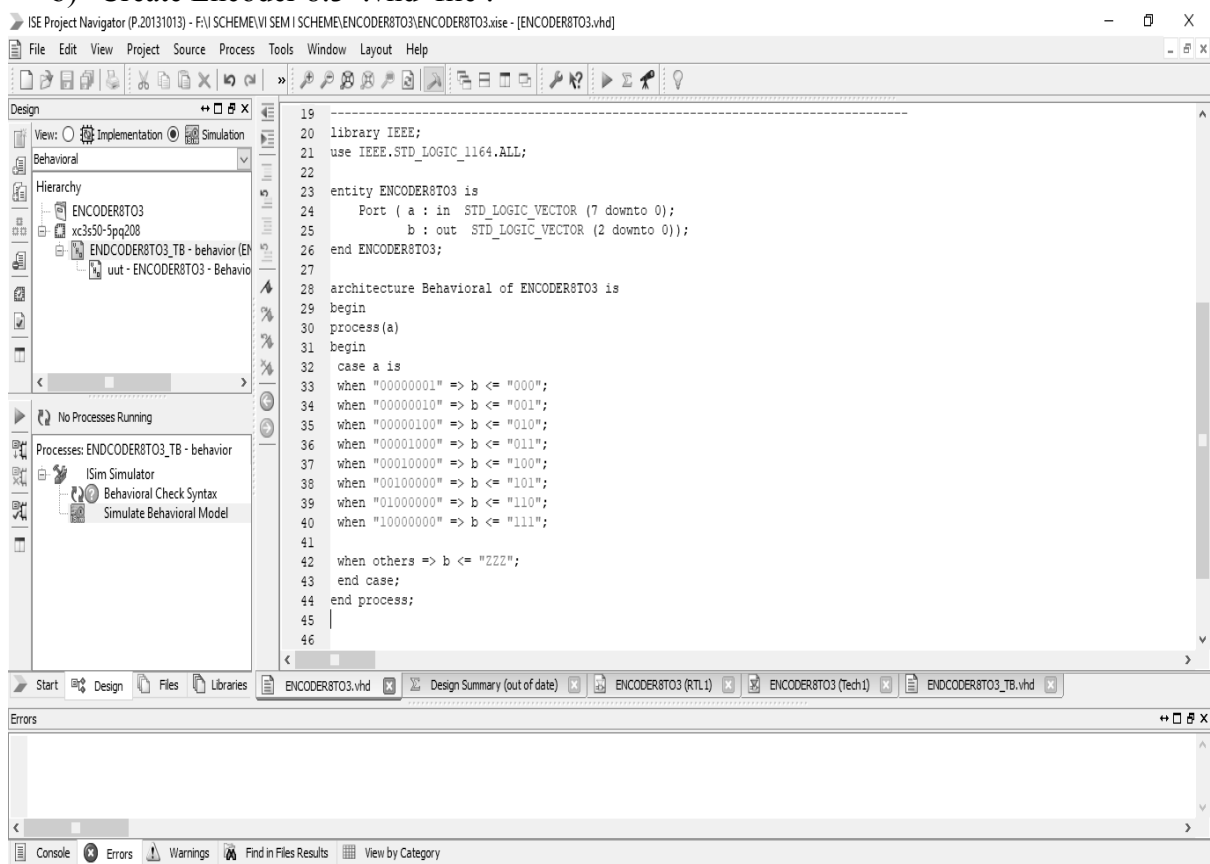

Fig 10.3: .vhd file
4. Develop VHDL code for given problem and Synthesize the .vhd file and view RTL schematic. Ref Fig 10.3.